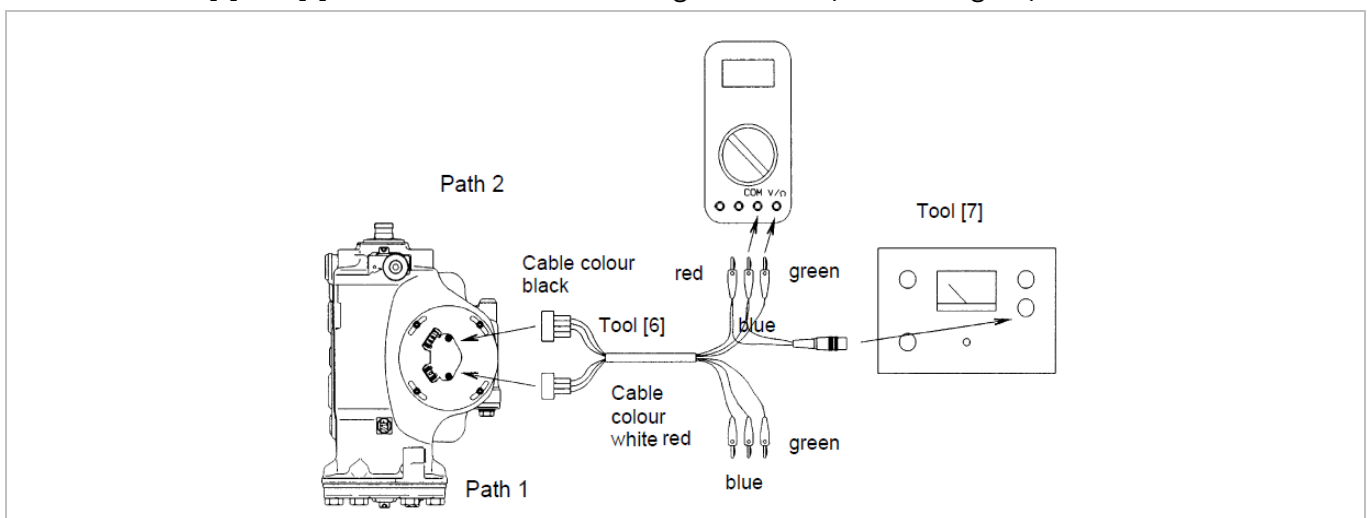

Fig. 20: Setting the potentiometer to steering gear mid-position
1. Connect tools [6] and [7] and the Multimeter measuring instrument (shown in Fig. 20).
2. Rotate the potentiometer (232) together with the cover (221) until the Multimeter measuring instrument reads half the voltage applied, namely  $2.5 \text{ V} + 0.03 \text{ V}$ .
3. In this position, tighten the cap screws (223) (tightening torque:  $4+1.5 \text{ Nm}$ ).
- ▶ Measurement path 2; refer to Fig. 20
- ▶ Measurement path 1: refer to Fig. 20
4. Check the voltage at path 1. In case the value differs from the value measured at path 2 then. Rotate the potentiometer (232) again along with the cover (221) until the same voltage (specified value:  $2.3 - 2.7 \text{ V}$ ) is indicated for both paths.
5. In this position, tighten the cap screws (223) (tightening torque:  $4+1.5 \text{ Nm}$ ).